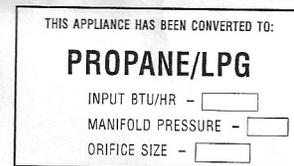

Figure 10
Step 15. Attach appropriate conversion kit label (*Figure 10*) next to the rating plate on the appliance. Attach the installer conversion label next to the gas valve, after filling out the information on the label. Refer to the Installation Instructions for required input rating.